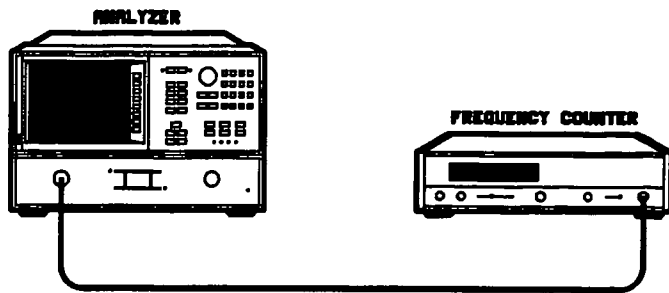

Figure 5-5. Source Pretune Correction Constants Setup
1. Move the A9 correction constant to the alter position (see *Adjustments* tab). Connect the equipment as shown in Figure 5-5 and then press **RECALL** **RECALL FAC PRESET** **SYSTEM** **SERVICE MENU** **TESTS** **ADJUSTMENT TESTS**. When the CRT displays "Pretune Adj", press **EXECUTE TEST**. Press **YES** at the query to alter the correction constants.